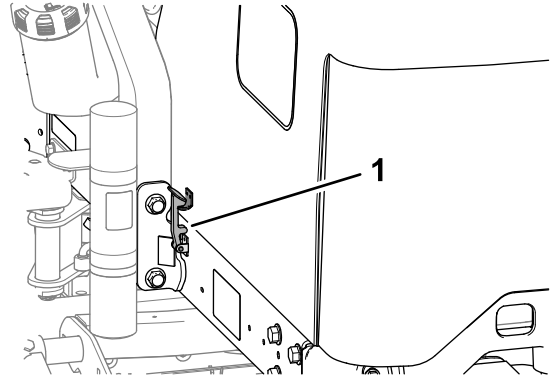

Figure 43
2. Rotate the hood up and back (Figure 43).